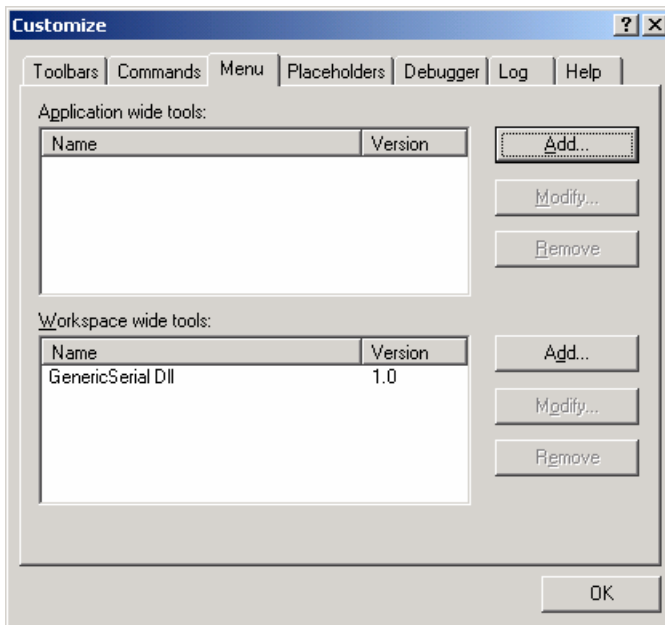

Figure 6-19 Customize Menu Dialog
1. Select [**T**ools->**C**ustomize...]. The dialog shown in Figure 6-19 will be displayed. Select the 'Menu' tab.